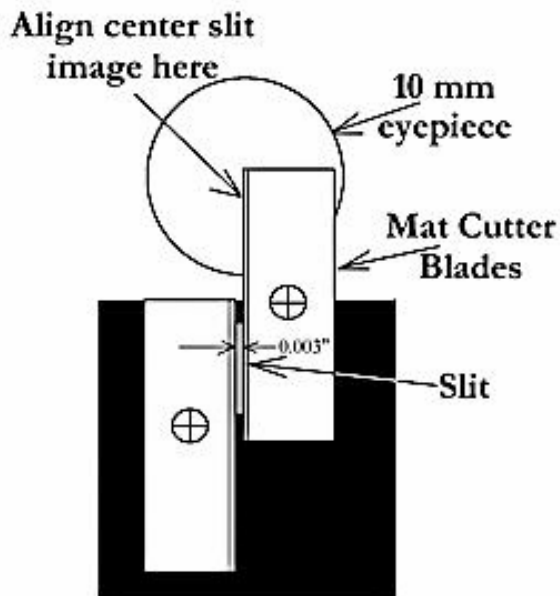

Fig. 15. Mat Cutter Slit Assembly.
- Observe the center slit with a 10 mm eyepiece. Rotate the tester (camera tripod works well) horizontally and vertically so as to keep the center slit image fixed with respect to the upper mat cutter blade while moving the tester on the longitudinal axis – Fig. 15.